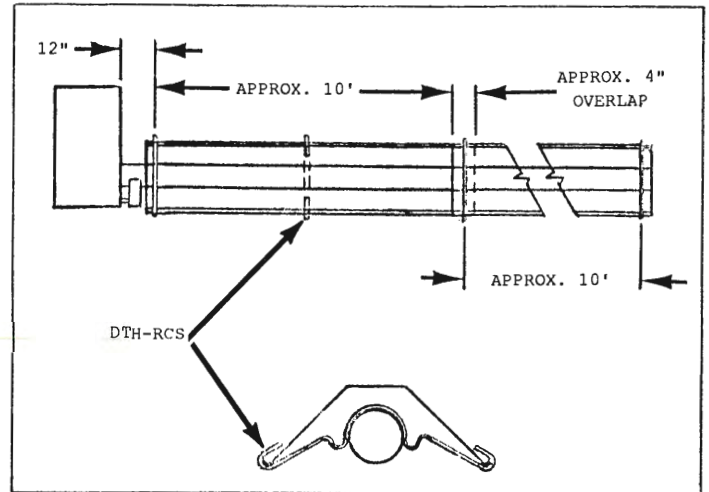

Figure 2-12
1. Slide reflector through wire hangers and overlap 4 in. for support (See Figure 2-12).
2. Install reflector center support DTH-RCS as shown in Figure 2-12, only on the first 10 ft. after the burner.